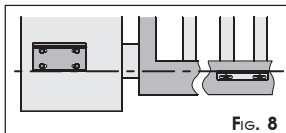

FIG. 8
- the lower edge of the rear bracket must be aligned with respect to the upper edge of the front bracket (Fig.8).